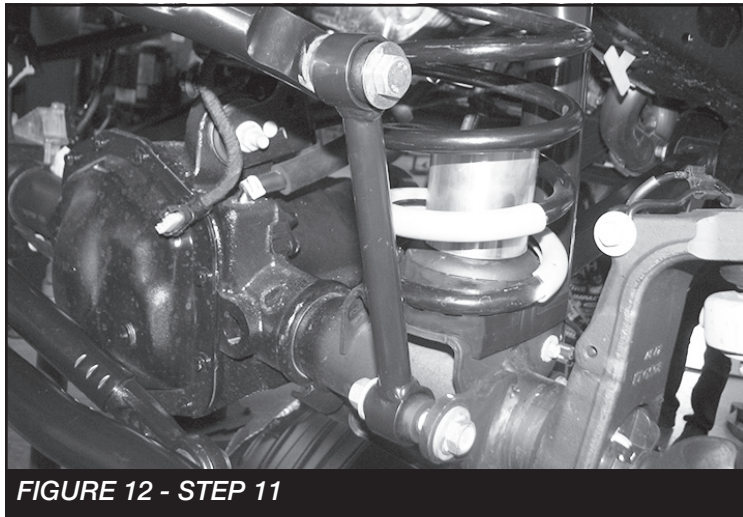

FIGURE 12 - STEP 11
11. Install FT50048 (Bushings) and FT404739 (Sleeves) into FT50261BK (Sway bar links). Then, install the links to the axle mount and sway bar using the supplied M12 x 70mm hardware for the upper location and the factory for the lower. Torque to 65 ft-lbs. **SEE FIGURE 12**